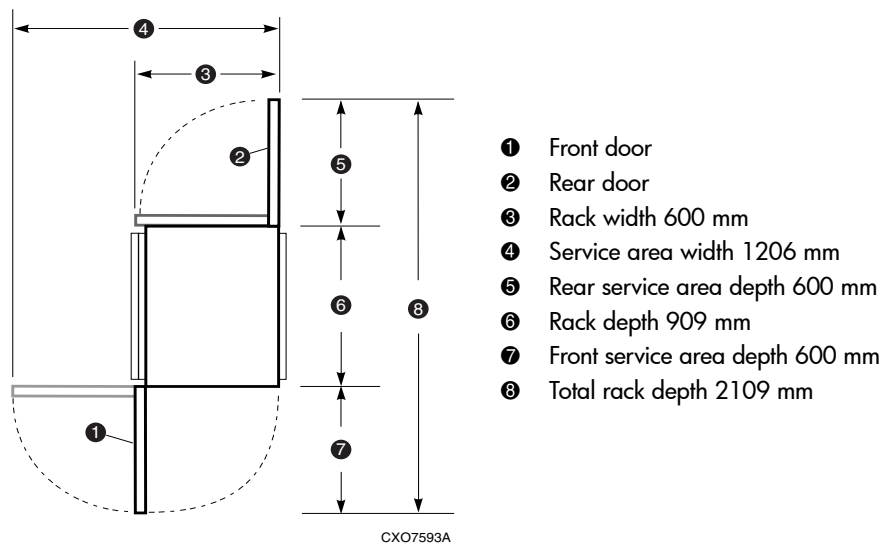
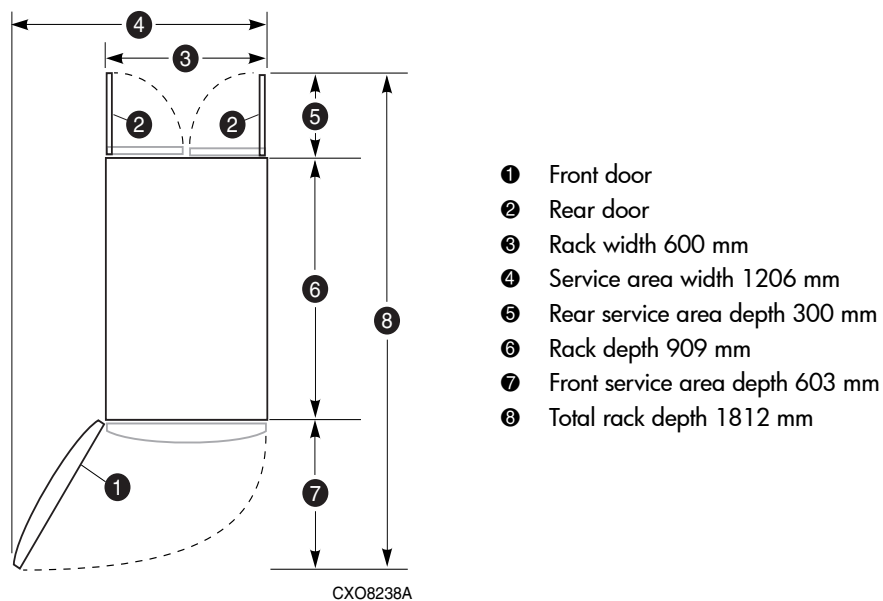

Figure 61: Rack floor space requirements (single-piece rear door)
Figure 62: Rack floor space requirements (split rear door)
The floor space requirements for a rack with a single-piece rear door are shown in Figure 61. The floor space requirements for a rack with a split rear door are shown in Figure 62. The split rear door is available on Enterprise Racks.
3. Carefully move the rack to the installation area and position it to provide the necessary service areas. See Figure 61 or Figure 62.